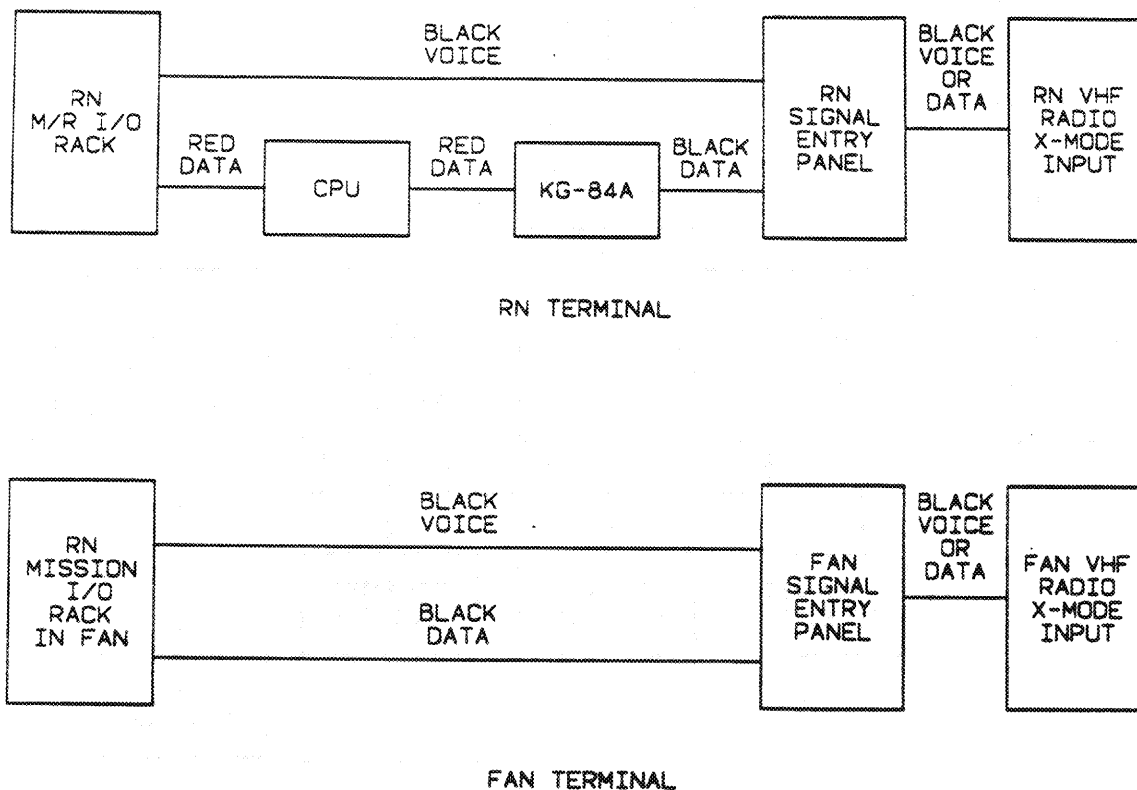

Figure 2-7. VHF Interface
b. VHF RF Interface. The VHF interface (Figure 2-7) is used to provide communications between the Force Terminal and an AN/MSC-64 FAN (Flaming Arrow Network) terminal. In this scenario, an RN Mission I/O Rack has been remoted and is collocated with the FAN I/O Rack. The voice link may be secure or non-secure. Data and voice may not be used simultaneously, but is selectable under the Signal Entry Panel set-up menu at the Force Terminal Radio I/O.
c. Figure 2-7 shows how the VHF radio system in the Force Terminal and the FAN Terminal are linked: